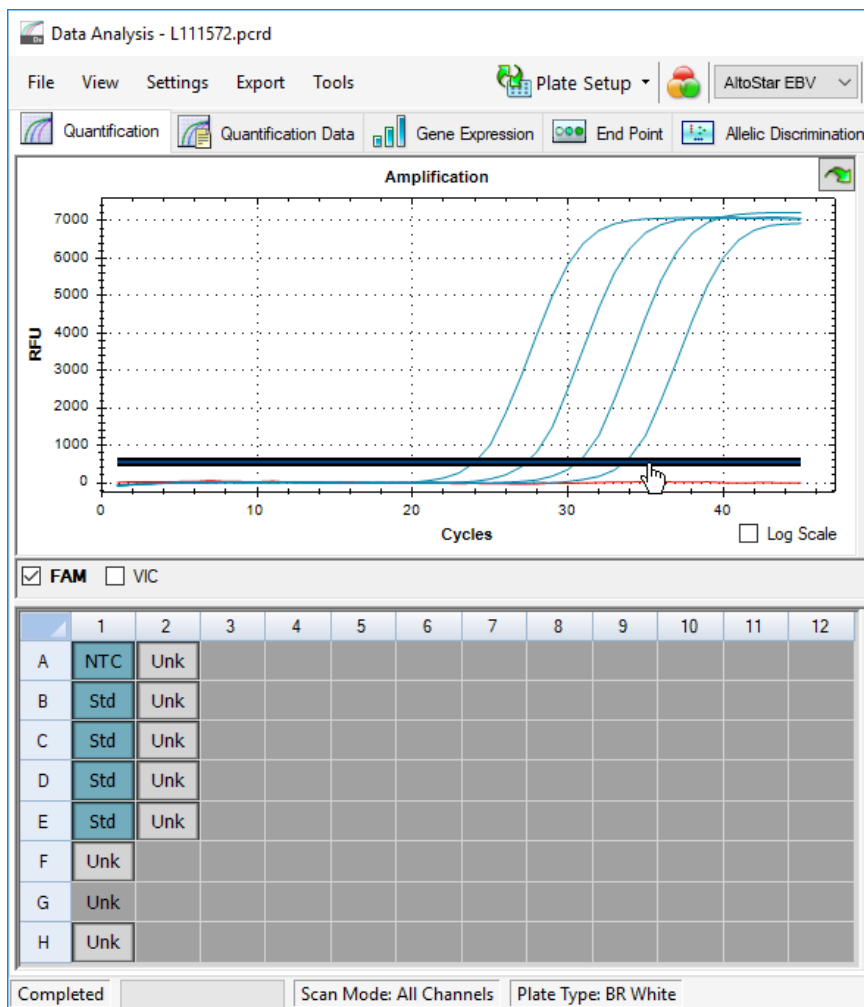

Figure 10: Data Analysis window: setting the FAM™ threshold
5. At the left side of the Data Analysis window untick the **VIC** checkbox and tick the **FAM** checkbox for the detection channel of the EBV target (see figure 10).
6. Select only the wells containing the NTC and the Qs in the plate view of the Data Analysis window (see figure 10).
7. Drag the threshold well above the signal of the NTC into the exponential area of the Qs signals (see figure 10).